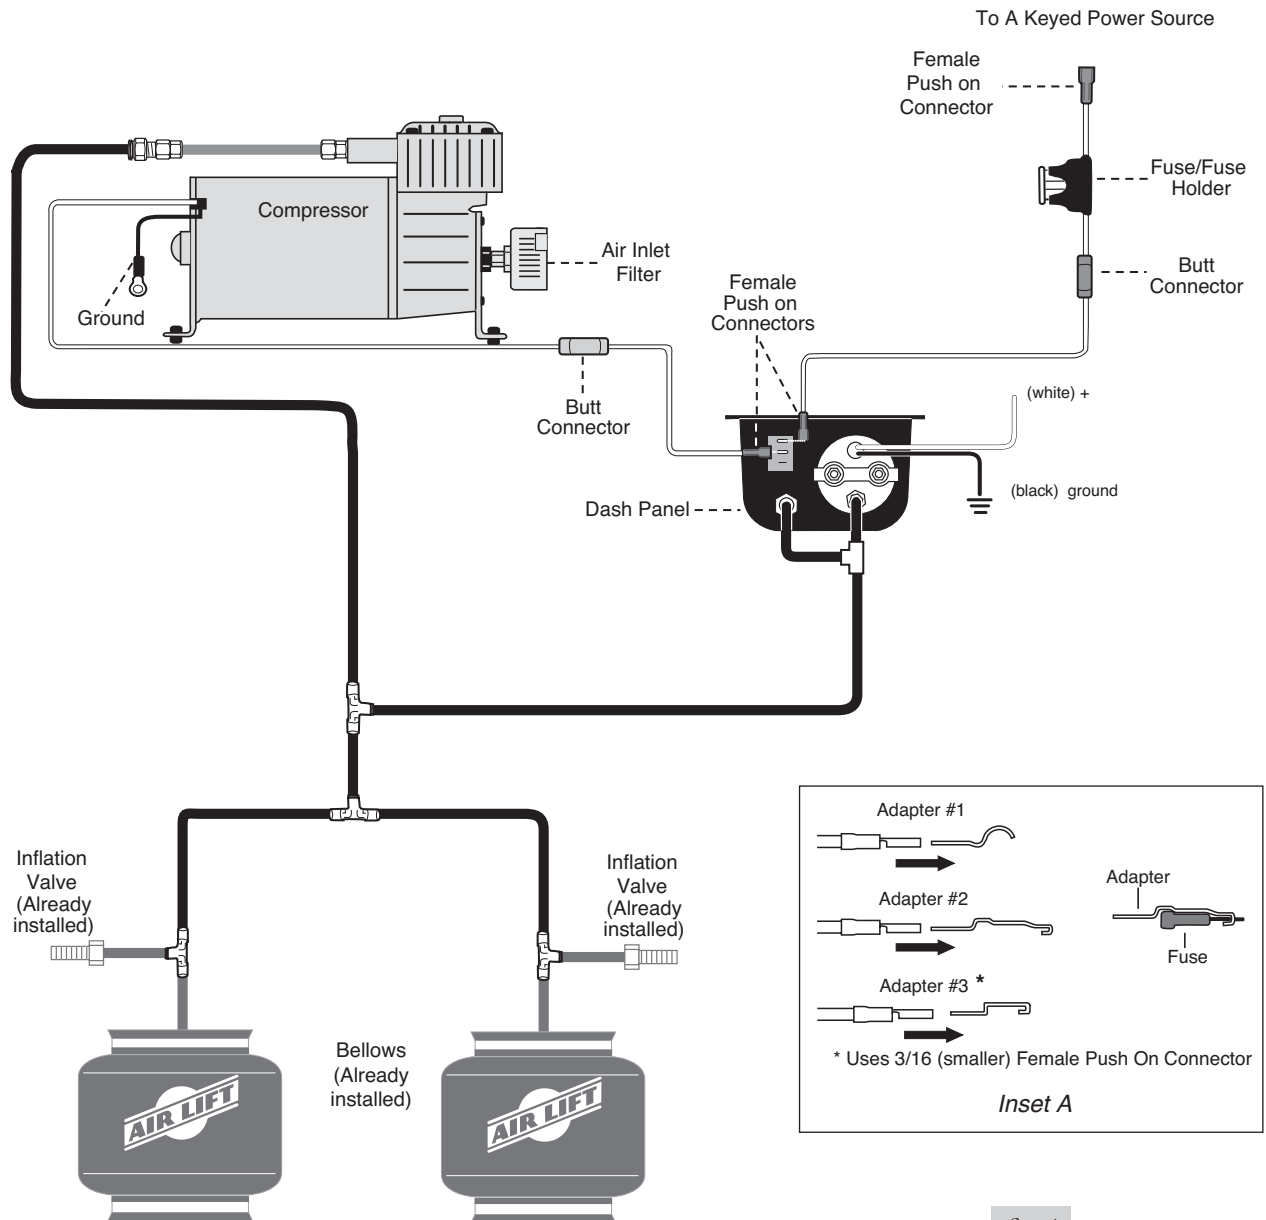

fig. 1
3. Connect the (red) wire from the panel to the (red) wire on the compressor using a blue butt connector (Figure 1). Connect the other end of the wire to the push switch using the blue $\frac{3}{16}$ female push on connector. With your thumb against the front side of the switch, push the connector onto one of the terminals on the back of the ON/OFF switch on the gauge panel
5. Determine the length of supplied (red) wire required to connect the dash panel to the fuse assembly. Cut and crimp the wire into the butt connector (Fig. 1). Connect the other end of the wire to the push switch using the blue $\frac{3}{16}$ female push on connector. With
4. Determine the location of the third tee. Cut the air line between the first two tees and install a third (Figs. 1 & 5).
7. Determine the closest and easiest area to connect the gauge panel to the air line between the compressor and air springs. Measure the distance between these two points and cut the air line and install the last tee (Figs. 1 & 5).